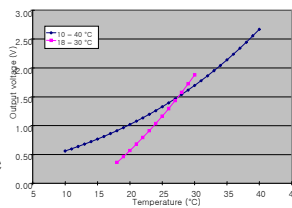

Fig. 1. Temperature reading from ICM interface
- ADC variation: Each mote and channel measures the same input voltage with some variance (Fig. 1).